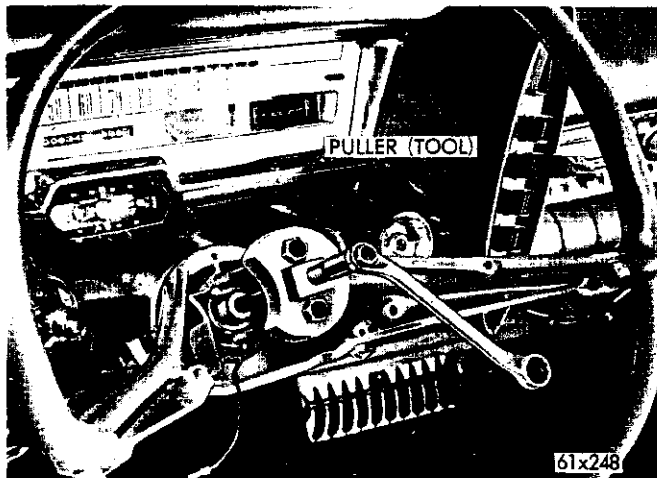

Fig. 25—Removing the Steering Wheel
(11) Loosen the steering wheel nut several turns and install the steering wheel puller Tool C-3428 (Fig. 25) and remove the steering wheel nut and the steering wheel.